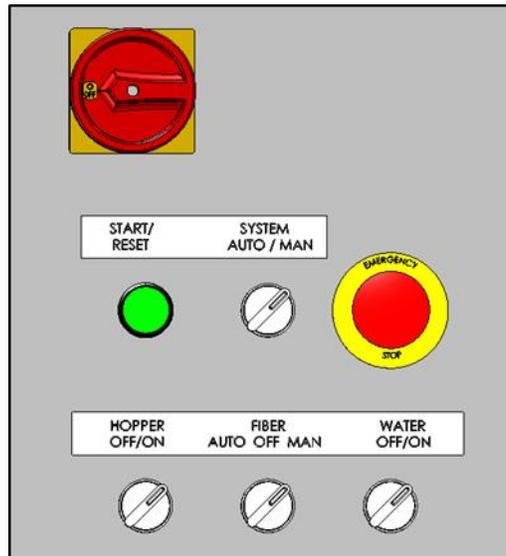

Figure 5
10. Loosen the two (2) set screws in each bearing collar.
13. Note settings on control panel. Set “SYSTEM” TO “MAN”; set “HOPPER” to “OFF”; set “FIBER” to “OFF”; set “WATER” TO “OFF”. **See Figure 5.**